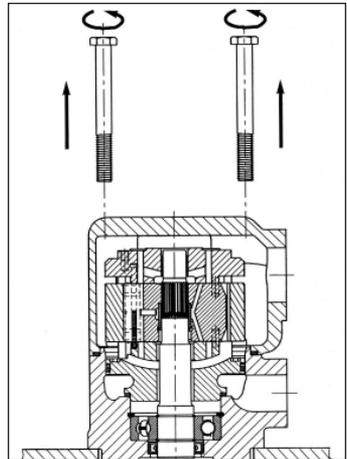

Fig. 2
2. Unscrew the 4-Bolts **(Fig. 2)**.